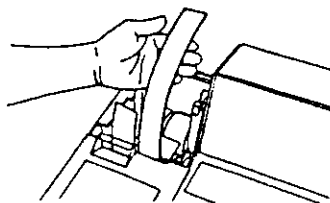

Fig. 9
6. When the paper comes out of the journal outlet for approx 20cm (or 8 inches), release the [JF] key (Fig. 9).